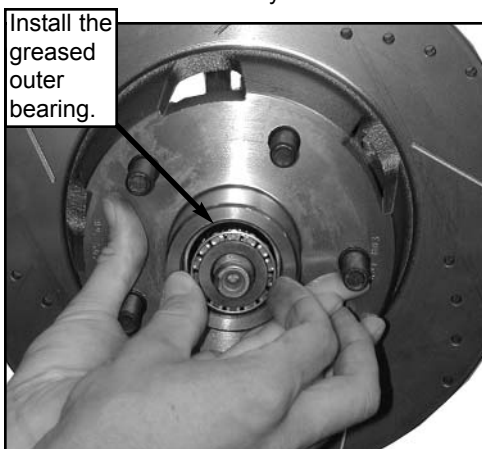
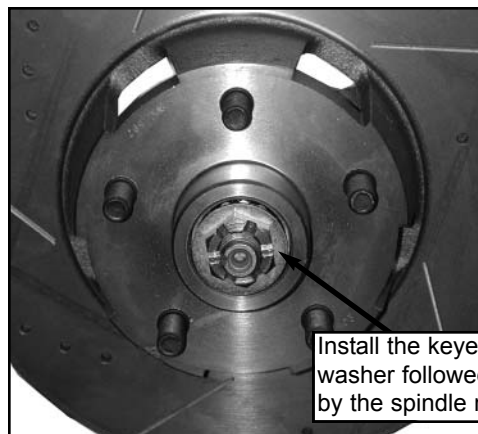

Figure 5
Figure 6
3. Slide the rotor onto the spindle (with the greased inner bearing and the rotor seal already installed) followed by the greased outer bearing (As shown in Figure 5), the keyed washer and the spindle nut (As shown in Figure 6). Tighten the spindle nut until rotor moves freely but is not loose. Then install the spindle nut retainer and the cotter pin to secure.